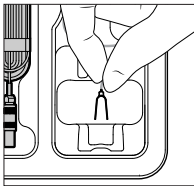

Figure 2
5. Peel off the Tyvek cover from the inner tray. Remove the FLOW NOW Device from tray by gently lifting the wire, taking care not to tug on the wire (See Figure 2).